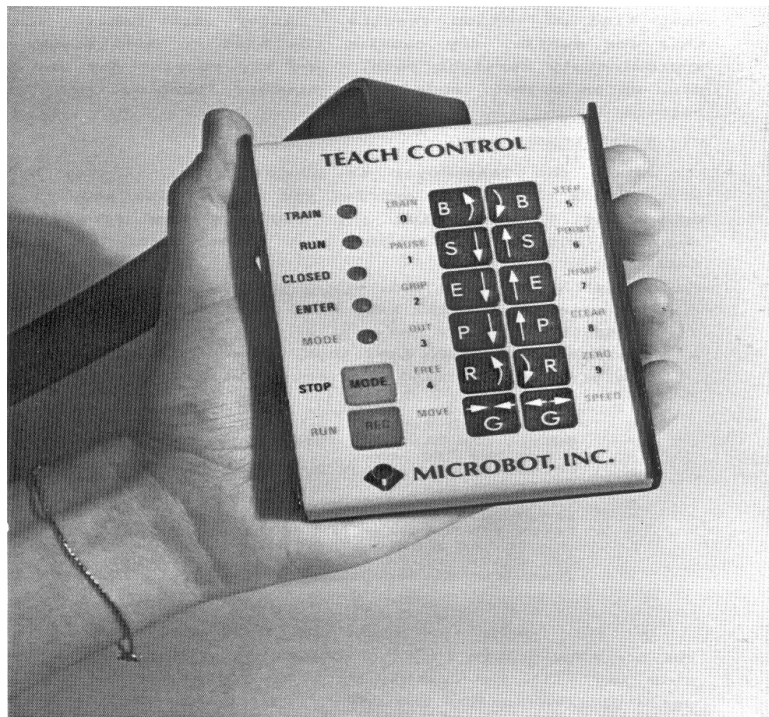

Figure 1
- TeachControl Mode: in which the hand-held TeachControl (Figure 1) can be used to teach, edit and run a variety of manipulation programs.